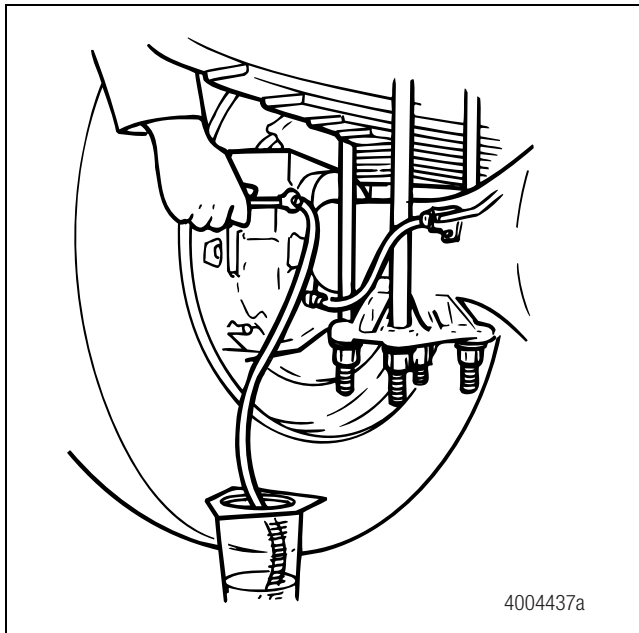

Figure 4.1
- C. Use a wrench to open the bleeder fitting screw. Figure 4.1.